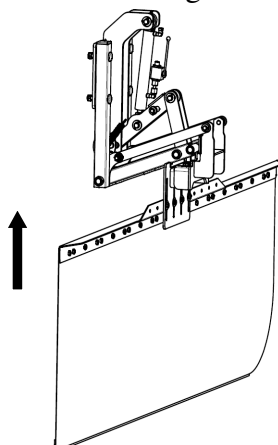
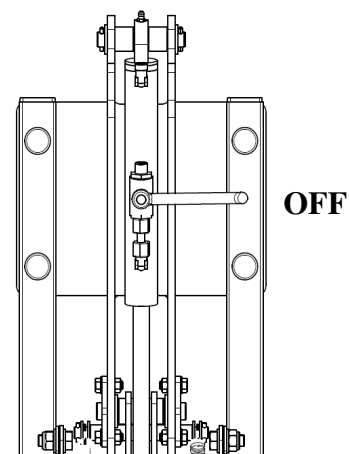

Fig. 28. Lifting front tarpaulin cover
Fig. 29. Securing lifting mechanism
- ❑ using the tractor's hydraulics lift the front guard **Fig. 28** maximally up,
Once the work is completed, first lift the tarpaulin cover mechanism (Fig. 28) and secure the valve on cylinder (Fig. 29). Working assemblies can be slid down only when the mechanism is secured.